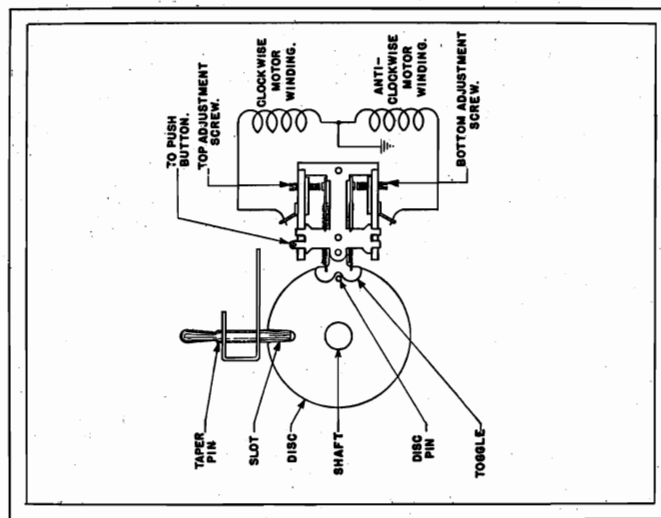

Fig. 5
The push button electric tuning system employed in this receiver incorporates eight push buttons on the Model 1118 and nine on the Model 1128, a selector switch and a motor. The discriminator switch, item 59—also Figs. 5 and 6, incorporates eight metallic discs, each of which operates in conjunction with a different push button to tune-in some favorite station. That is, the 1st push button on the left as you face the front of the cabinet works with No. 1 disc, and the 2nd push button works with No. 2 disc, etc.